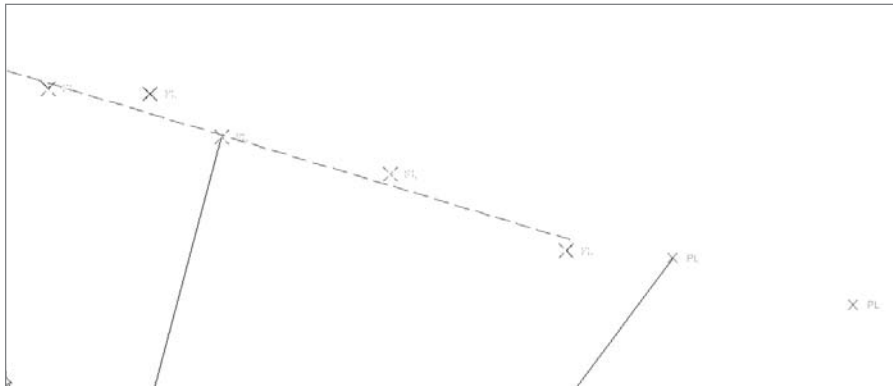

Figure 3.8
5. In Panorama, note that you can exclude points, force pass-through points, and choose other options that would refine your line of best fit, as shown in Figure 3.8. Click the green checkbox in the upper-right corner of Panorama to dismiss this window. The line will be drawn and the command will end.